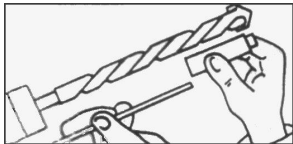

FIG.1
1. Set the drill depth to 70mm (Fig.1)